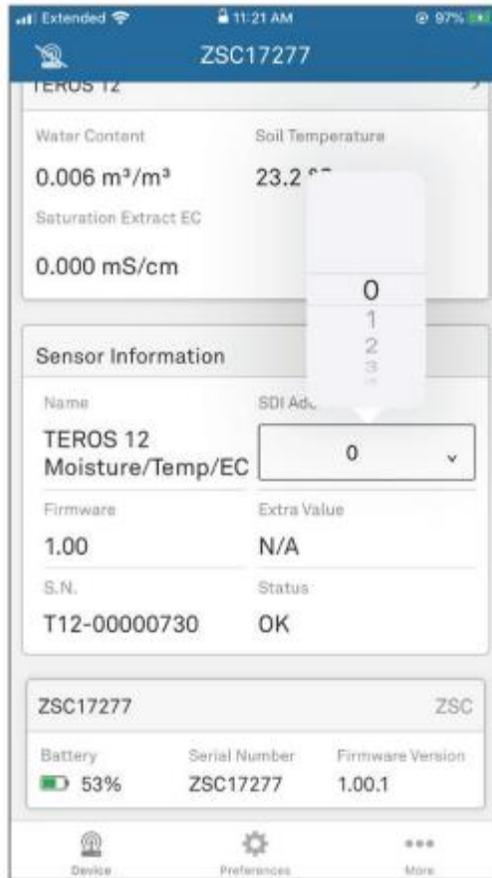

Figure 10 SDI-12 Address dropdown
3. Under Sensor Information, select the SDI Address dropdown (Figure 10).